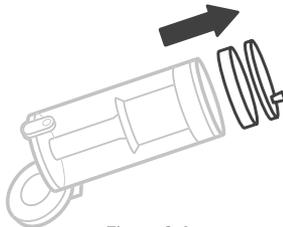

Figure 3.4
2. Remove the two pre-motor filters (foam filter and felt filter). **[Figure 3.4]**